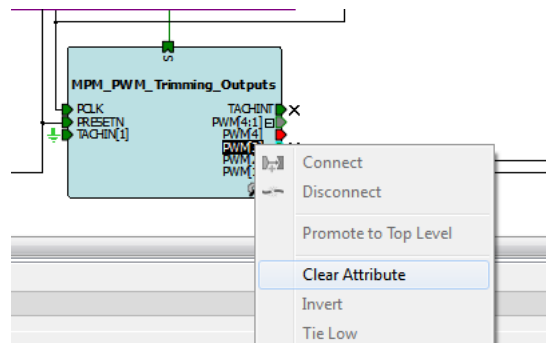
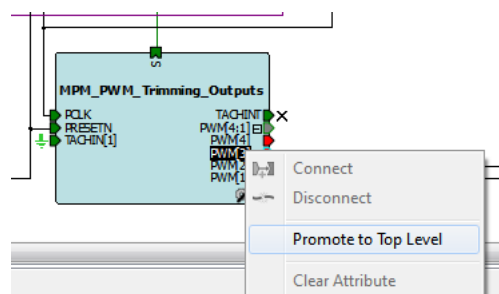

Figure 39 • PWM[3] Clear Attribute
Figure 40 • PWM[3] Promote to Top Level
5. Right-click PWM[3] to clear the attribute as shown in Figure 39 and right click PWM[3] again to Promote to Top Level as shown in Figure 40 on page 27.